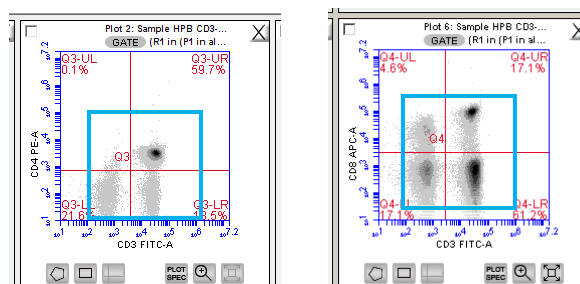

Figure 3-35 Blue boxes show desired 4 log channel to view for Plots 2 and 6.
1. In order to better visualize the lymphocyte populations, the axes range for both Plot 2 (CD3 vs. CD4) and Plot 6 (CD3 vs. CD8) should be adjusted (Figure 3-35, blue boxes).